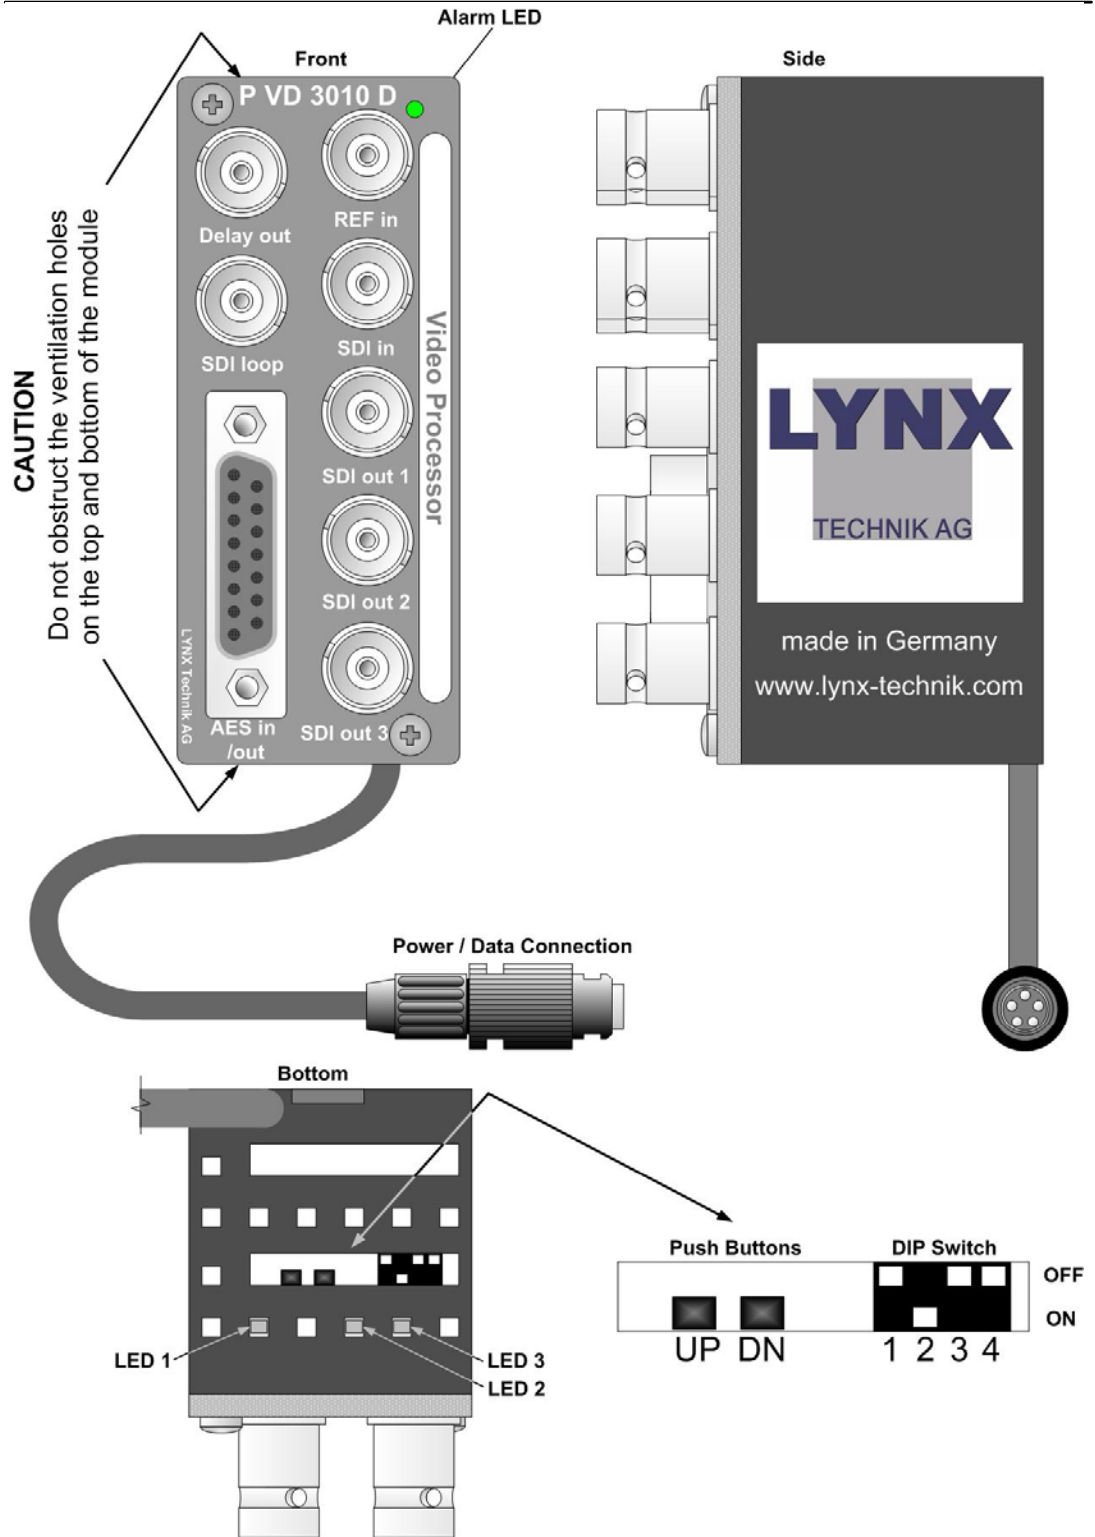

Fig.2: Physical layout P VD 3010 D
Figure 2 shows the physical layout of the P VD 3010 D MiniModule. This module uses BNC connectors for digital video and a SubD15 connector for AES audio input and output (Audio option and Advanced Video option sold separately).
Please refer to Figure 2 for the location of these adjustments.
Below the switch settings for the 4-position dip-switch are defined. Located next to the switch are two push buttons [UP/DN] these are for delay adjustments. Refer to figure 2
2. Observe LED 3, (figure 2) this can be in two states: